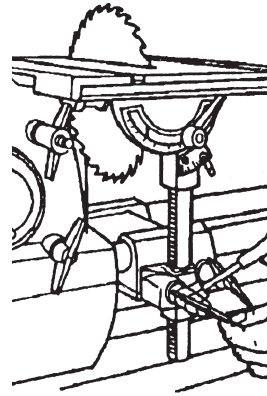

Figure 30
9. Lower the Worktable (nearly all the way down) so the Saw Blade comes through the slot. Lock the Table Height, as seen in Figure 30 or 31.